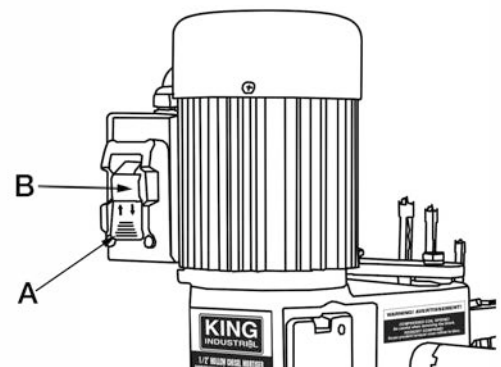

FIGURE 10
The ON-OFF switch (A) Fig.10 is located on the motor. Push switch up to turn the machine ON and down to turn it OFF. The switch comes with a removable safety key (B) that allows the switch to be locked in the OFF position. To activate the locking feature, push switch to the OFF position and pull the safety key out of the switch. To reactivate the switch, simply reposition the safety key in the switch.